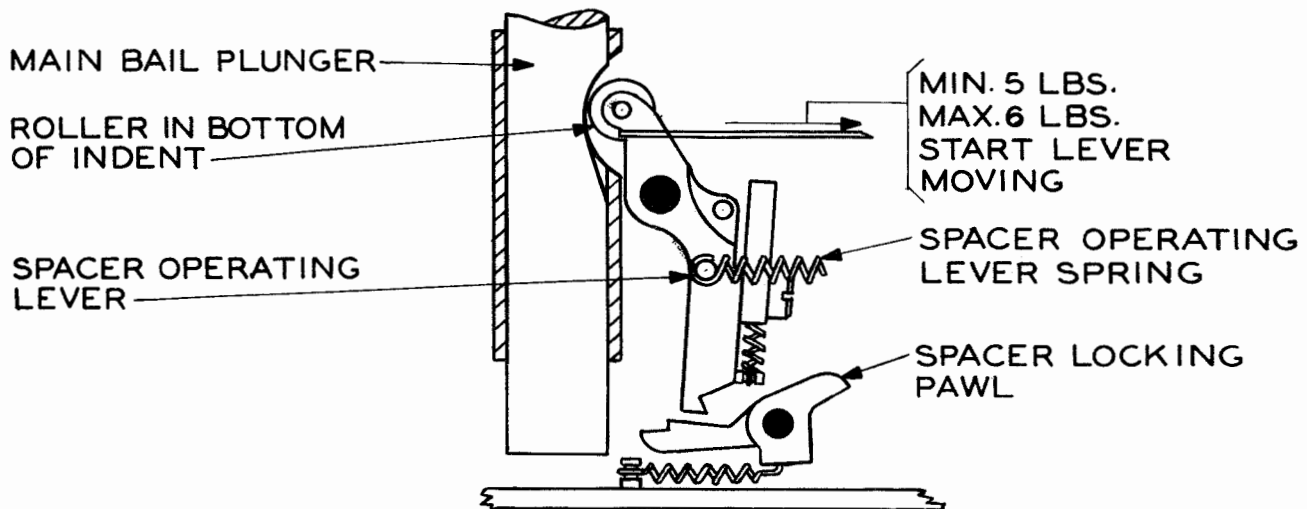

Figure 4
2.12 Spacer Operating Lever Spring tension shall be minimum 5 pounds, maximum 6 pounds for units equipped with a horizontal spring, or minimum 3 pounds, maximum 6 pounds for units equipped with a vertical spring, when the spacer operating lever roller is in the bottom of the indent of the main bail and the spacer locking pawl is not engaged with the spacer operating lever. The horizontal spring is illustrated in Figure 4. (See Figure 4.)